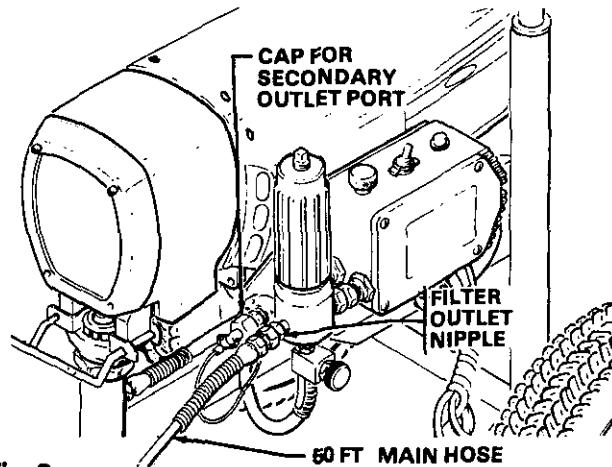

Fig 2
1. **Connect Hose and Gun** (Refer to Fig 2.)
2. **Two Gun Hookup.** (Refer to Fig 2.) Remove the cap from the 1/2 npsm(f) nipple and attach an accessory hose and gun.
- a. Close the filter's pressure relief valve. If a secondary hose and gun is not installed, be sure the cap is securely plugging the nipple. See Fig 2.